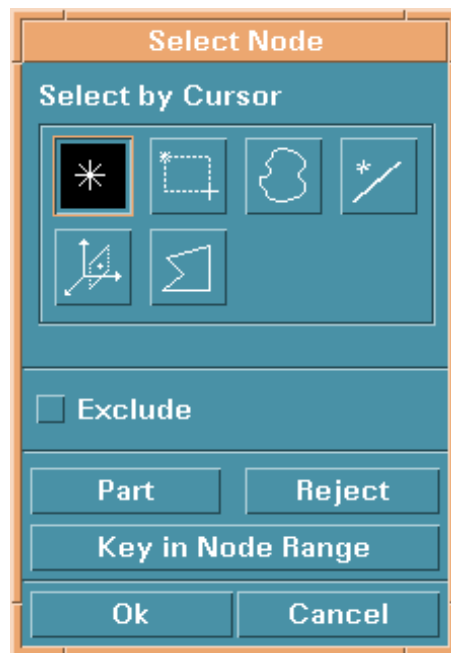

Figure 6.4.2 Select Node
- Select nodes by using options in the SELECT NODE dialog window see Figure 6.4.2.